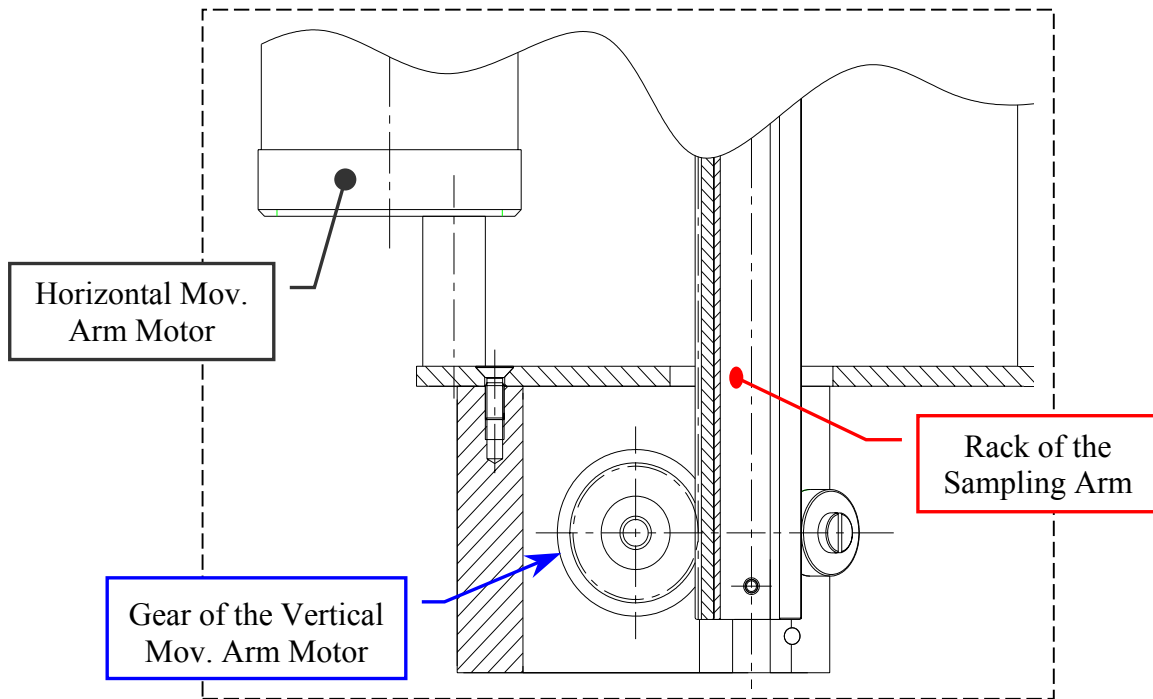

Fig. 22 – Vertical Mov. Arm Motor gear lean on the rack (detail drawing)
9. Lean the gear of the Vertical Mov. Arm Motor on the rack of the Sampling Arm in order that the teeth of the gear has a right grip on the rack (**Fig. 22**).